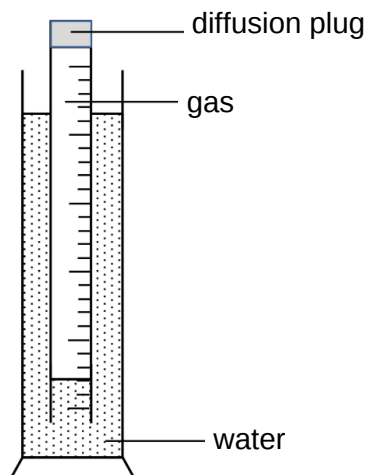

Fig. 2.1
- 2 Fig. 2.1 shows the apparatus for measuring the rate of diffusion of gases.